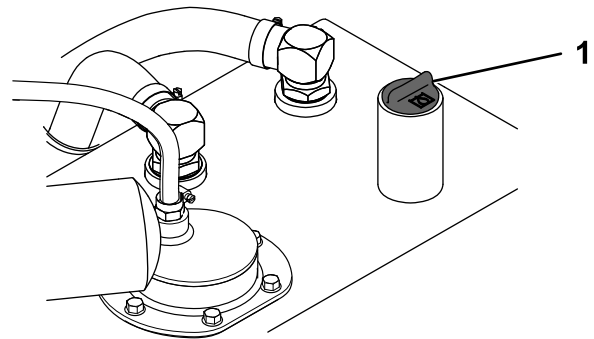

Figure 75
6. Clean the area around the filler neck of the hydraulic tank (Figure 75).